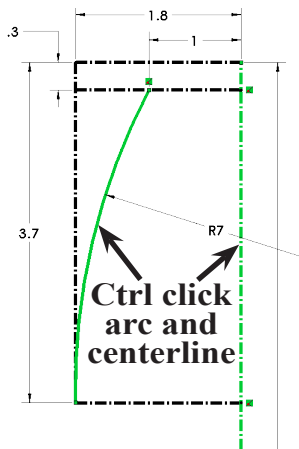

Fig. 8
Step 2. **Ctrl click arc and vertical centerline**, **Fig. 8**. To Ctrl click, click arc, then hold down Ctrl key and click vertical centerline.